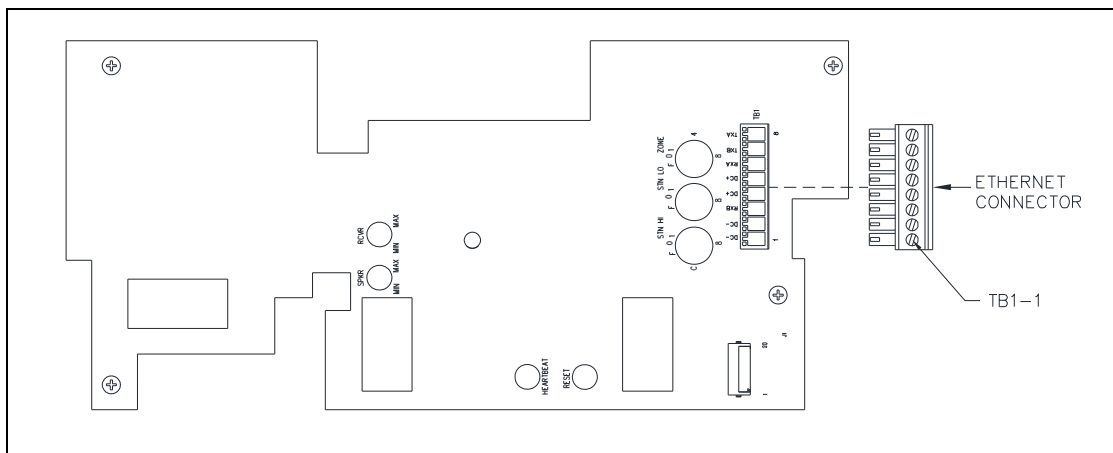

Figure 8. POE Interface PCBA
The POE interface PCBA is on top of the main PCBA. Terminate the Ethernet cable to terminal block TB1 on the POE interface PCBA (see Figure 8):
4. Connect the pluggable terminal block to the POE interface PCBA (see Figure 8).